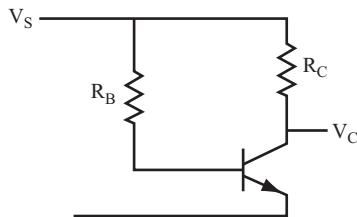

FIGURE 12.4
- 26.** Using the circuit shown in Figure 12.4, find the value of R_B required to turn the transistor ON if $V_s = 14$ volts, $R_C = 10 \text{ k}\Omega$, and $\beta = 50$. _____
27. Again, using the circuit shown in Figure 12.4, find the value of R_B required to turn the transistor ON if $V_s = 5$ volts, $R_C = 4.7 \text{ k}\Omega$, and $\beta = 100$. _____